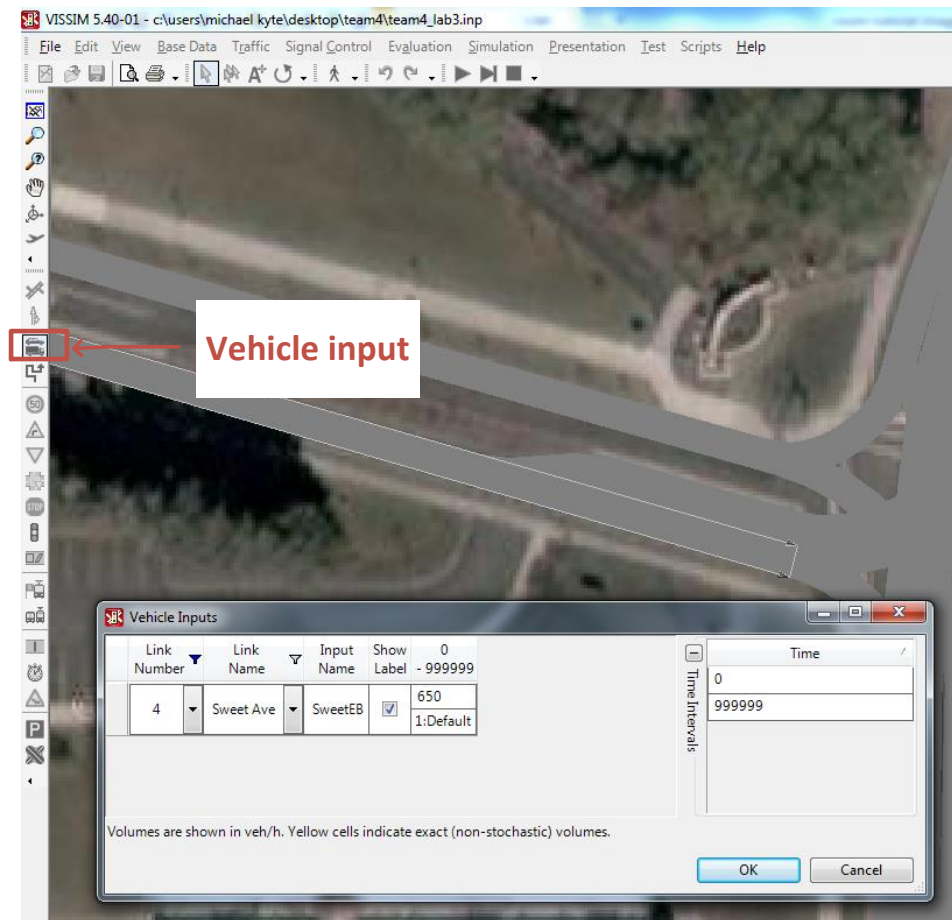

Figure 15. Changing vehicle volumes
- Enter the desired volume in the table. Figure 15 shows the volume cell boxed with a red border.